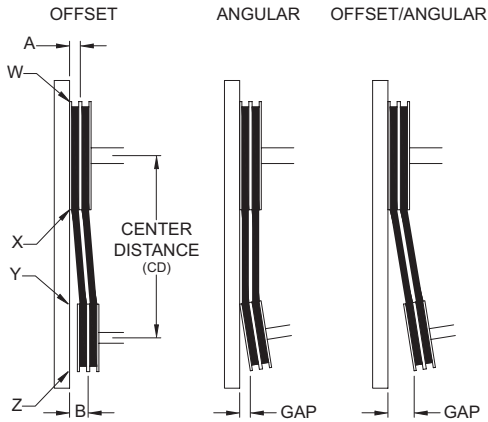

Figure 3
4. Ensure pulleys are properly aligned. Refer to *Figure 3*.
Figure 3 indicates where to measure the allowable gap for the drive alignment tolerance. All contact points (indicated by WXYZ) are to have a gap less than the tolerance shown in the table. When the pulleys are not the same width, the allowable gap must be adjusted by half of the difference in width (as shown in A & B of *Figure 3*). *Figure 4* illustrates using a carpenter's square to adjust the position of the motor pulley until the belt is parallel to the longer leg of the square.